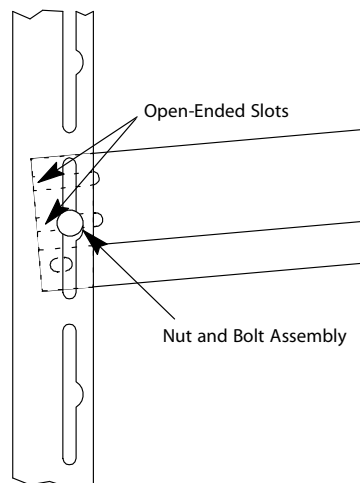

Figure 6 - Align Assembly with Slots
2. Rotate the sill support slightly, and then align the open-ended slot with the nut and bolt assembly. See Figure 6.